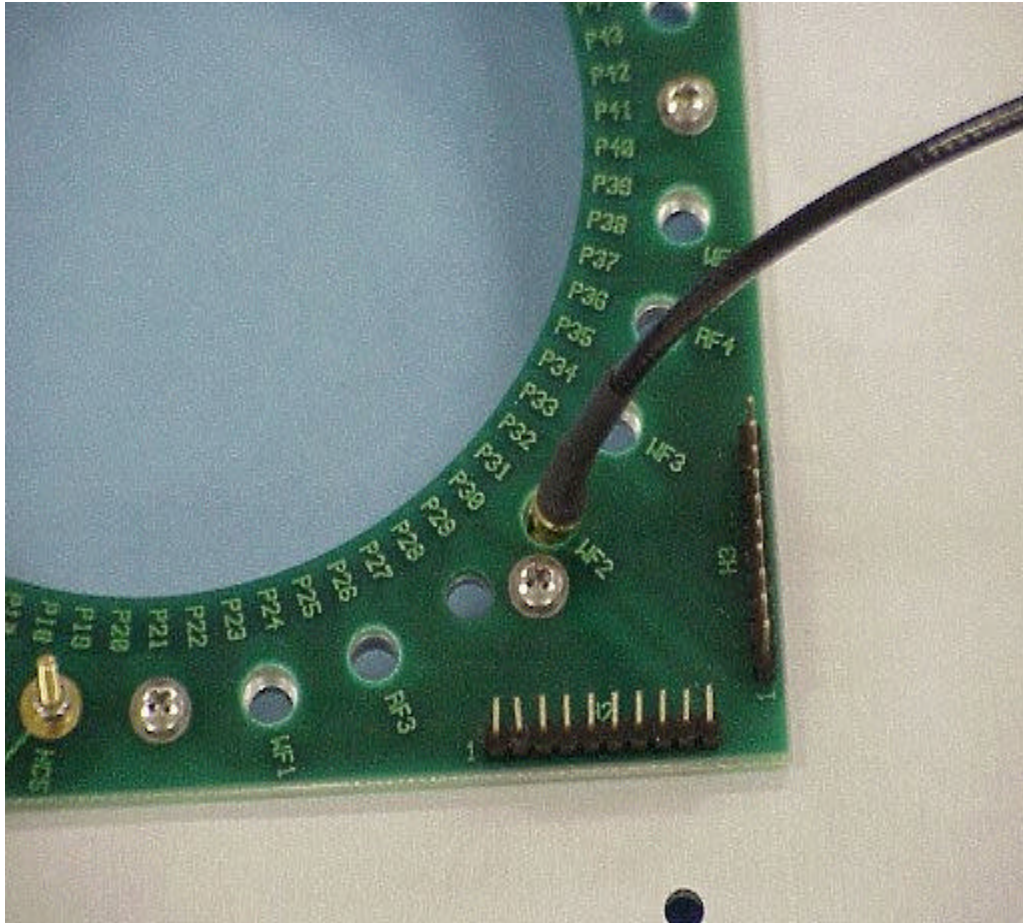

Figure 8
2. The **Waveform Cables** (RiK0002A) are installed by pushing in the **DINF** connector from the top side of the **Bottom Plate Assembly** into the required **WF** port location (**Figure 8**).